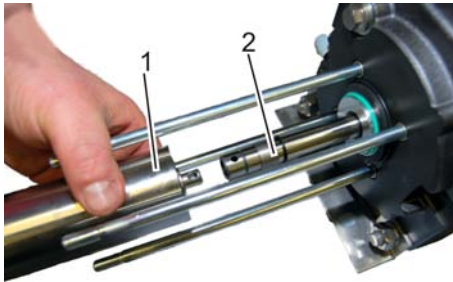

Fig. 64: Detaching the high pressure cylinder
- 17.** ➔ Detach high pressure cylinder (Fig. 64/1) from piston rod (Fig. 64/2).